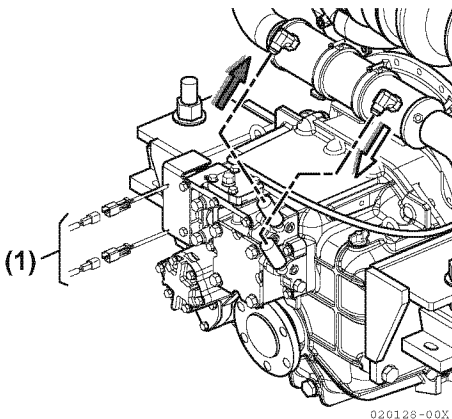

Figure 5
1. Ensure the ECU connectors (Figure 5, (1)) are tight.